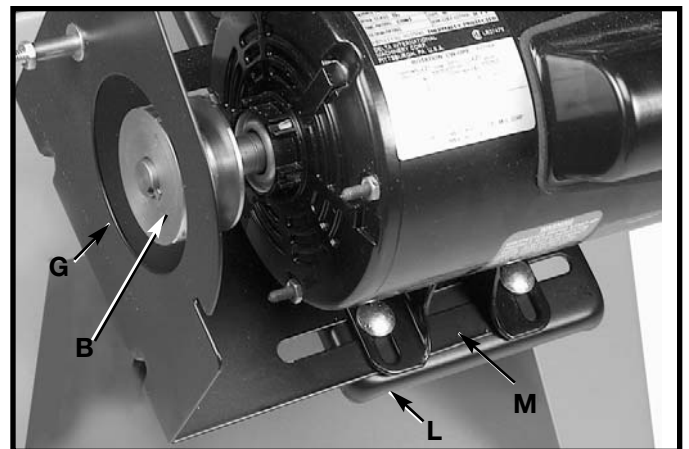

Fig. 17
4. Slide the belt and pulley guard bracket (G) Fig. 17 between the motor plate (M) and motor mounting plate (L), as shown.
5. Position belt and pulley guard bracket (G) Fig. 17, so that the motor pulley (B) is centered and through the hole in the belt and pulley guard bracket.